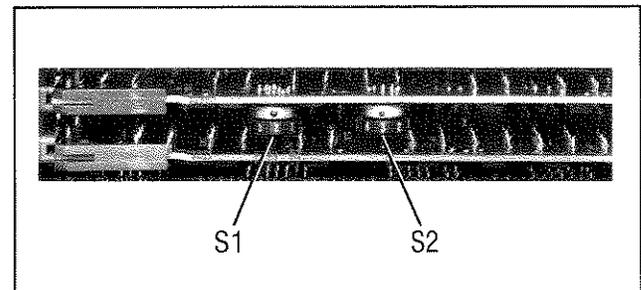

Figure 2-3. HP-IB Address Switches Shown as Set by the Factory
- c. Select the new address as shown in Table 2-1. The switches are shown in Figure 2-3. The HP-IB ADDRESS SELECT switch settings (for S1 and S2) are in the octal code. For example, the factory selected addresses are set to 23 (decimal 19). Therefore, the listen address is '3' and the talk address is 'S'.